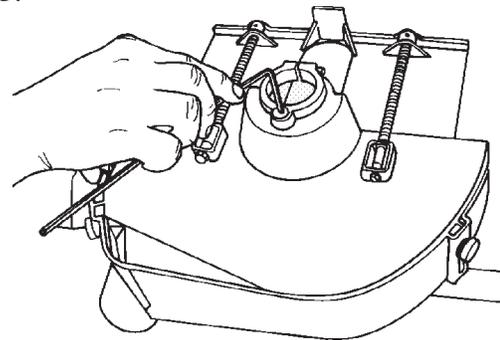

Figure B-112
- c. Use a 5/32" Allen wrench to adjust the stop screw (211) located below the lower saw guard's collar, as seen in Figure B-112.